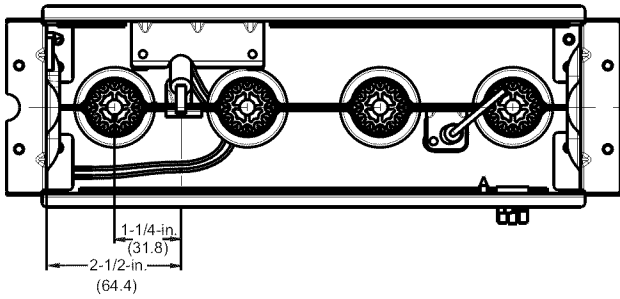

Fig. 6 - Igniter Position - Back View
4. Verify igniter to burner alignment. See Fig. 6 and 7.